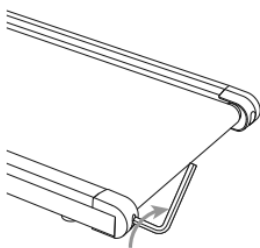

Figure 1
- If the belt has shifted to the left, use the hex tool to turn the left idler roller screw clockwise by 1/4 turn (see Figure 1).